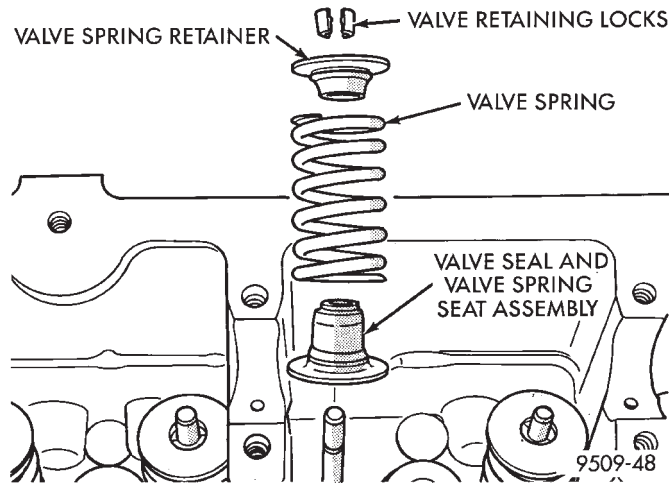

Fig. 44 Valve Stem Seal/Valve Spring Seat
(1) Install valve seal/valve spring seat assembly (Fig. 44). Push the assembly down to seat it onto the valve guide.